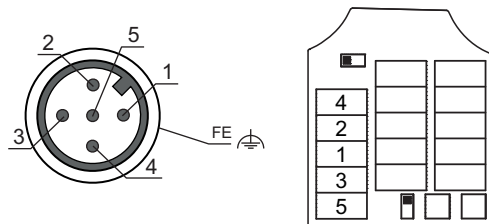

Figure 7.1: PWR / SW IN/OUT connection
If the BPS 304i is the last participant on the PROFIBUS cable, the socket on the MS 304 must be provided with a terminator plug (see table 14.3, Accessories) or the bus termination on the MK 304 must be activated with slide switch T (see figure 7.1).
- ↪ The bus is terminated via slide switch T in the MK 304 (see figure 7.1).
- ↪ If the current BPS 304i is the last PROFIBUS participant, set slide switch T to ON (see figure 7.1) to activate bus termination.
↳ Terminate the last physical PROFIBUS participant on the MK 304 connection hood with slide switch T (ON position, see figure 7.1).